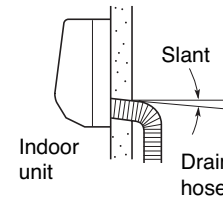

Fig. 3-72
- (1) The drain hose should be slanted downward on the outdoor side. (Fig. 3-72)
- (2) Never form a trap in the course of the hose.